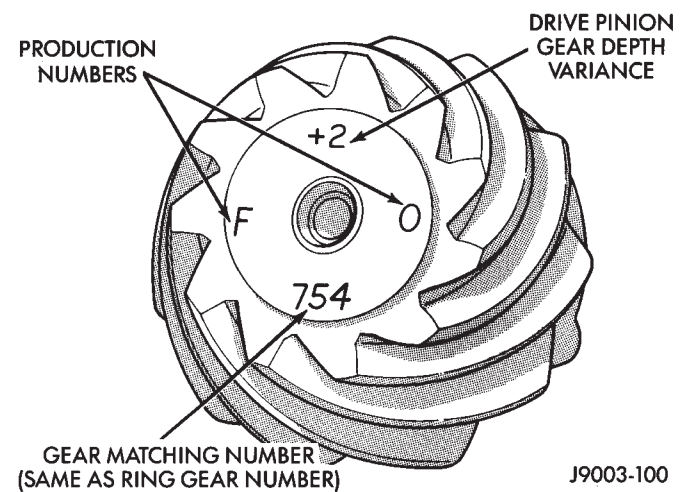

Fig. 22 Pinion Gear ID Numbers
Gears are supplied as matched sets only. The identifying numbers for the ring and pinion gear are etched into the face of each gear (Fig. 22). A plus (+) number, minus (-) number or zero (0) is etched into the face of the pinion gear. This number is the amount (in thousandths of an inch) the depth varies from the standard depth setting of 2.095 inches (53.21 mm) for Model 35 axles. The standard depth provides the best teeth contact pattern.